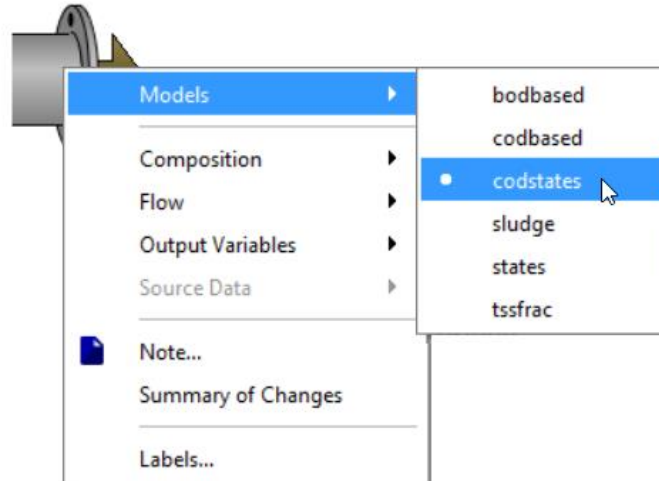

Figure 1-14 - Selecting Models
13. **Verify the influent model.** Right-click on the influent icon. The process data menu appears as shown in **Figure 1-14**. Verify that the *codstates* item is selected under the **Models** menu.